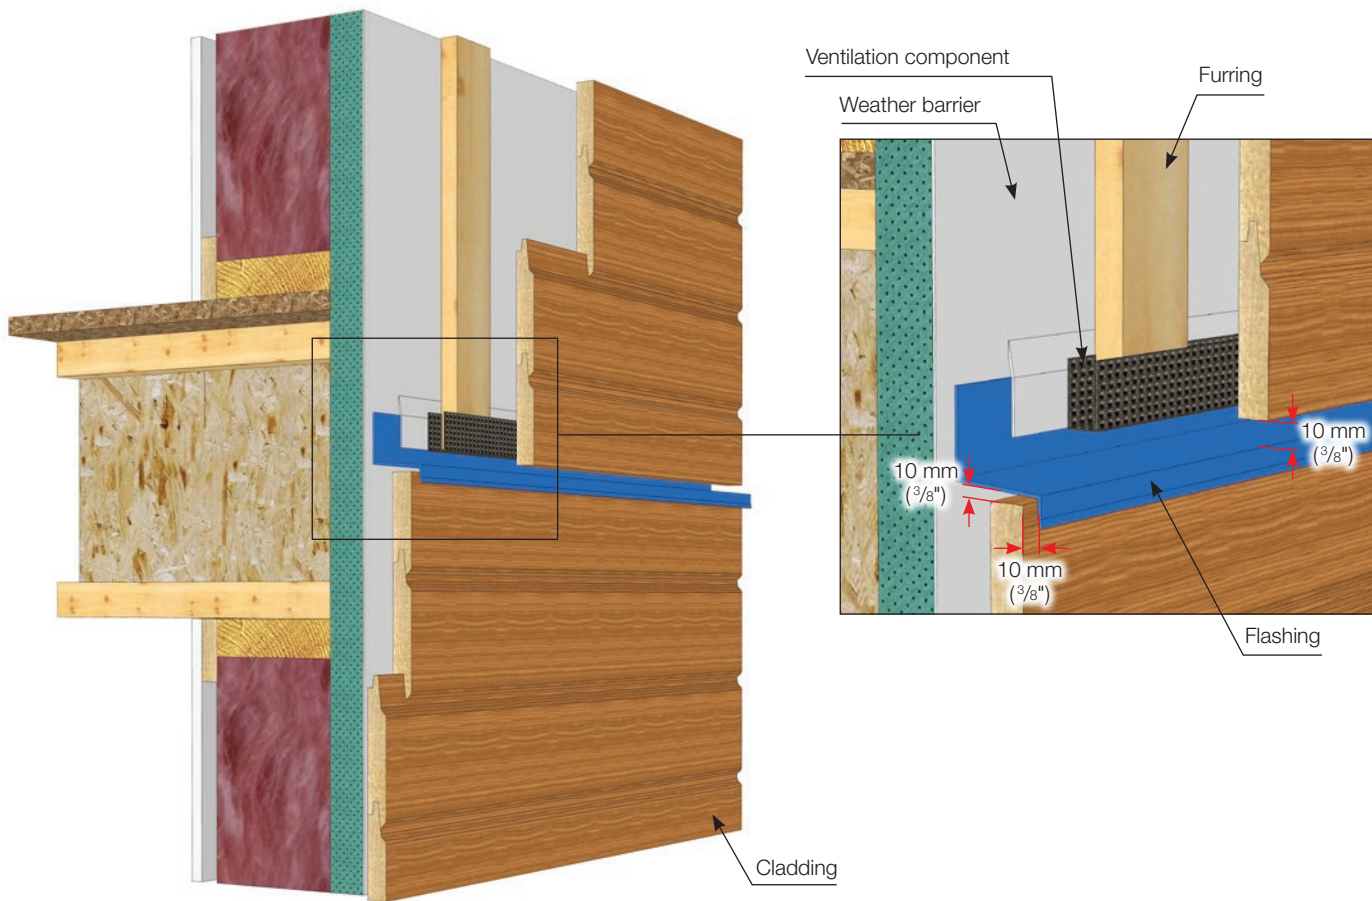

FIGURE 16 • Interruption of air space for cladding surfaces taller than 6 m
- Or compartmentalize, by breaking up and expelling the air space by integrating new openings and air outlets in each section of the wall (maximum 6 metres). Refer to Figure 16 to view the impact on the furring strips of breaking up the air space on the second board.
The installation of double furring strips (laths) as illustrated above creates an air space of 38 mm behind the exterior cladding. However, for any air space greater than 25 mm under the cladding, most construction codes require that sheet steel fire blocking 0.38 mm thick (article 9.10.16.3.2a) be installed at the level of each board (article 3.1.11.2.1a) horizontally, to leave a maximum of 20 mm of horizontal distance and 3 m of vertical distance between the fire blocks (article 3.1.11.2.1c). This detail will be similar to Figure 16 of the guide, but with double furring strips (double laths).
On the other hand, remember that for walls with a flat surface greater than 6 metres tall, it is required to break up the air space with free openings of 10 mm (3/8 in), as illustrated in **Figure 16**. Otherwise, the